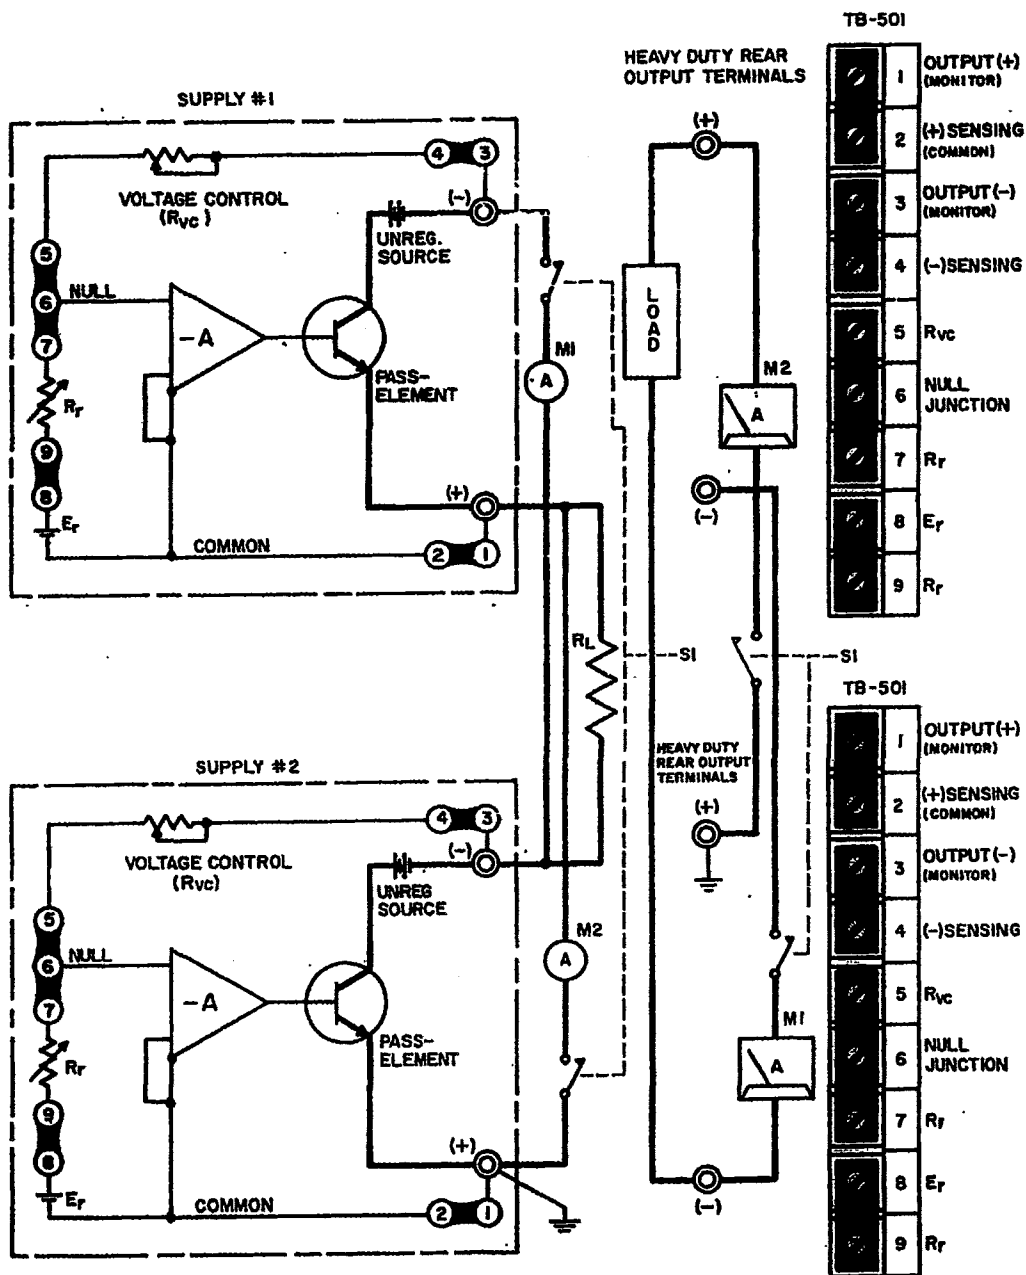

FIG. 3-13 BASIC PARALLEL CONNECTION OF TWO KEPKO POWER SUPPLIES
3-44 **PROCEDURE FOR AUTOMATIC PARALLEL CONNECTION (See FIG. 3-13)**
- 4) Make all load interconnections as shown in the connection diagram (refer to FIG. 3-13) *except the error sensing connections* (these connections may be added later if needed).